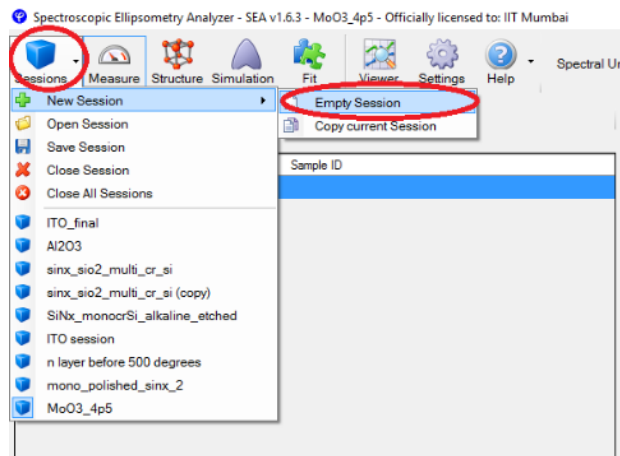

Figure. 8
14. Open “Empty Session” (Figure. 8)